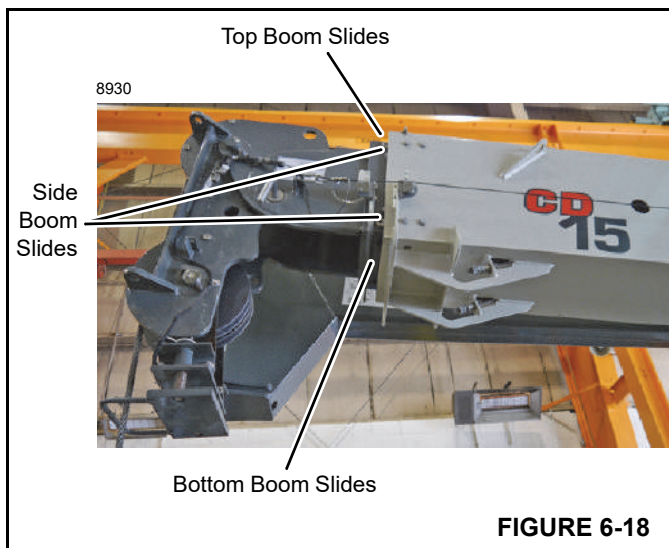

FIGURE 6-18
4. Brush Lithium Based, EP2 grease, or equivalent, to the sliding surfaces (Figure 6-18) on all boom sections. Only use a small amount of lubricant for best results.